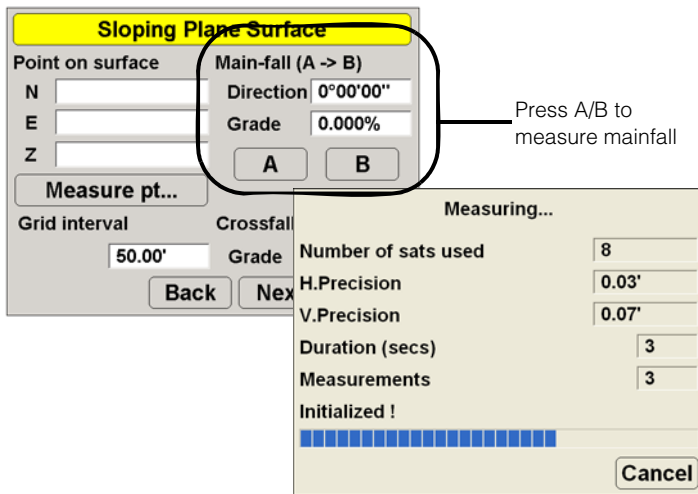

Figure 3-8. Measure Points A and B
5. On the *Sloping Plane Surface* dialog box, and when the center of the bucket rests on the point/hub, press **A** to measure the point; the *Measuring* dialog box displays during the measurement process (Figure 3-8).
6. Move to B point and position the bucket over the selected point. On the *Sloping Plane Surface* dialog box, press **B** to measure the point; the *Measuring* dialog box displays during the measurement process (Figure 3-8).